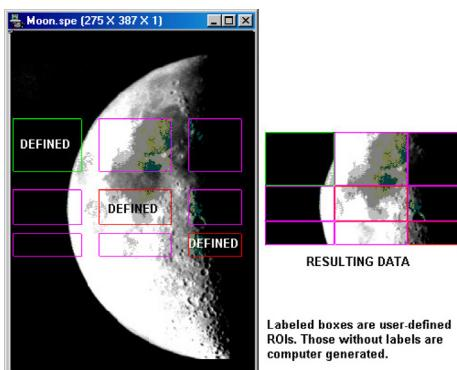

Figure 223. WinX/32 Side-Effect ROIs
**Note:** LightField version 3.0 SPE files are more complex than WinX/32 version 2.x SPE files. The LightField converter allows you to view the data in LightField. File information, however, will be limited and multiple ROIs will be displayed using the WinX/32 side-effect ROIs (*see Figure 223.*) Converted data can be exported but it cannot be used in post-processes.